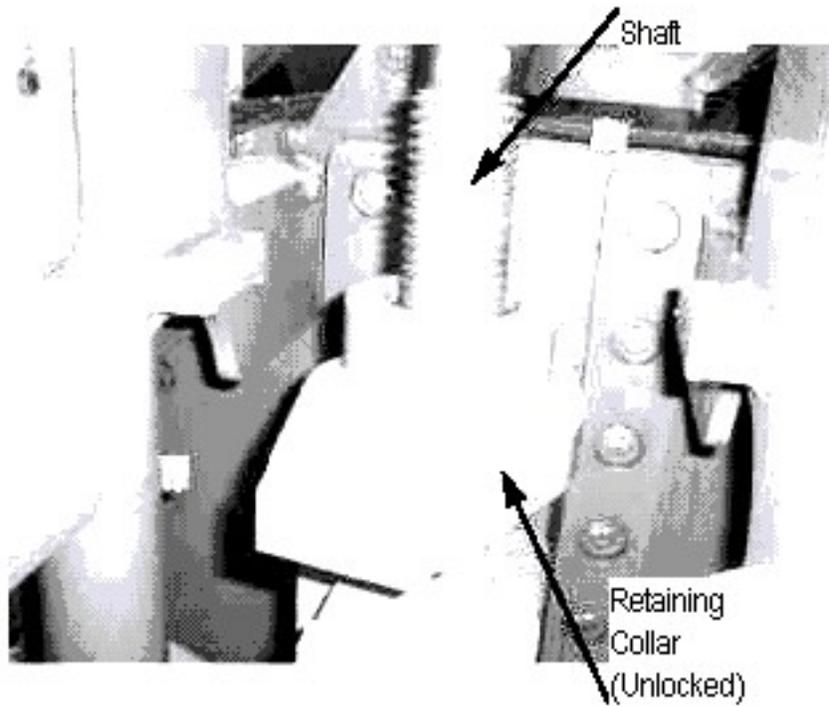

Figure 3-170
s. Turn bogie wheels retaining collar 1/4 turn clockwise to unlock bogie wheels, and if retaining collar is still tight, use handle stowed forward of bogie wheels to rotate shaft (see Figure 3-170).